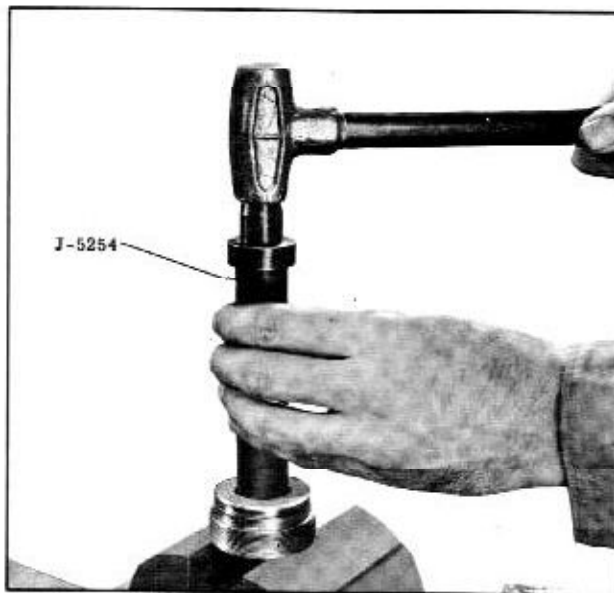

Fig. 4-11 Seal and Bearing Removal
2. If the needle bearing is to be replaced, remove the retaining ring using internal pliers, then drive the dust seal, seal and bearing from the adjuster plug with Tool J-5254. (Fig. 4-11) Discard seal and bearing.